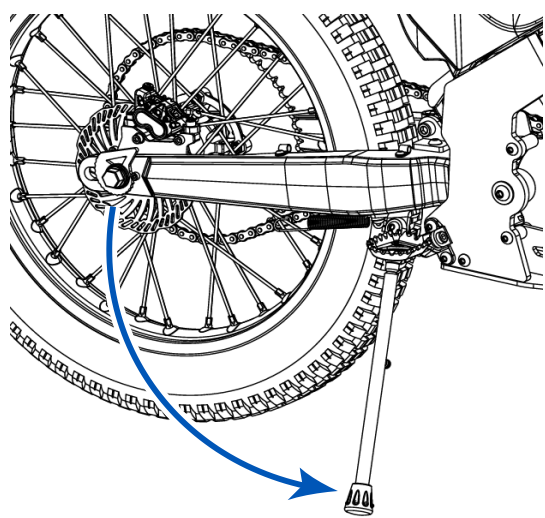
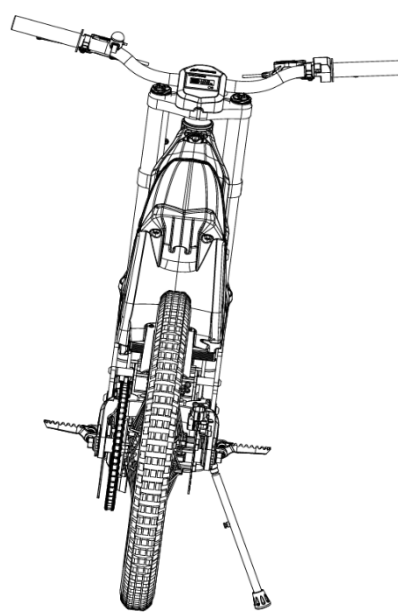

Fig. 13a
Fig. 13b
13. Once the center stand has been removed, the motorcycle must be placed in an upright position and the folding side stand must be lowered (Fig. 13a), to keep the motorcycle fixed and prevent it from falling (Fig. 13b). You must ensure that the motorcycle is placed on a flat surface. Position the motorcycle stand as shown in the following image.